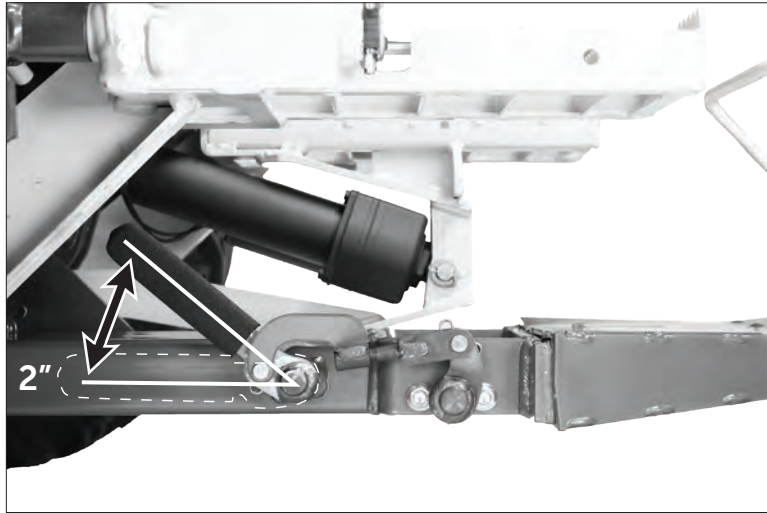

Figure 3.7
- The hitch lock lever should travel approximately 2" at grip end after implement hitch adapter is fully seated on implement hitch tongue as shown in figure 3.7.